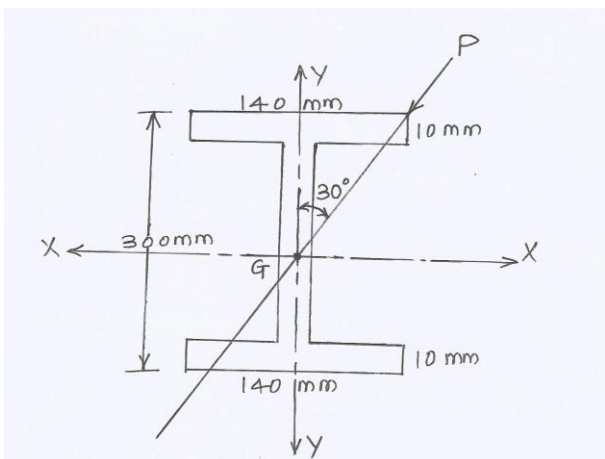

Figure-3
- (c) An Indian Standard I-section ISMB 300 is shown in Figure- 3. The properties of the section are as below:  $I_{xx} = 7719 \text{ cm}^4$ ,  $I_{yy} = 456 \text{ cm}^4$ . The plane of loading is inclined at  $30^\circ$  to the Y-axis. Find moment 'M' if the maximum bending stress induced is  $120 \text{ N/mm}^2$ . 07